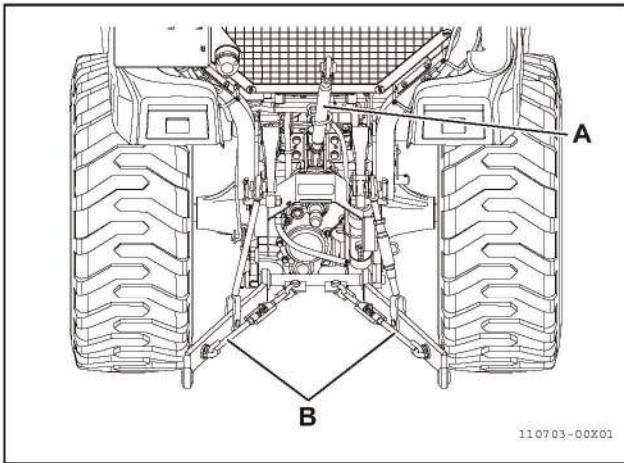

Fig 10-5
4. Connect the lower links (Fig 10-5, B) to the implement.
5. As necessary, unhook the top link (Fig 10-5, A) from the top link hook, and connect to the implement.